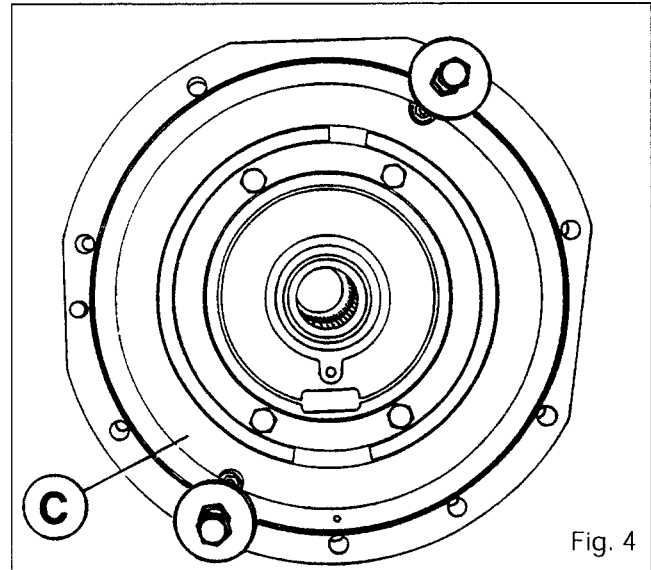

Fig. 4
- . the brake disc (19)
- . the planetary shaft (23)
- . the locating dowel (27)
**Note :** Prior to serial number E240024, to prevent the brake piston (C) from coming out of the housing, it is recommended that two wide washers and two bolts be fitted diametrically opposite each other to hold it in place. (Fig.4)
17. Remove the brake plate (18).